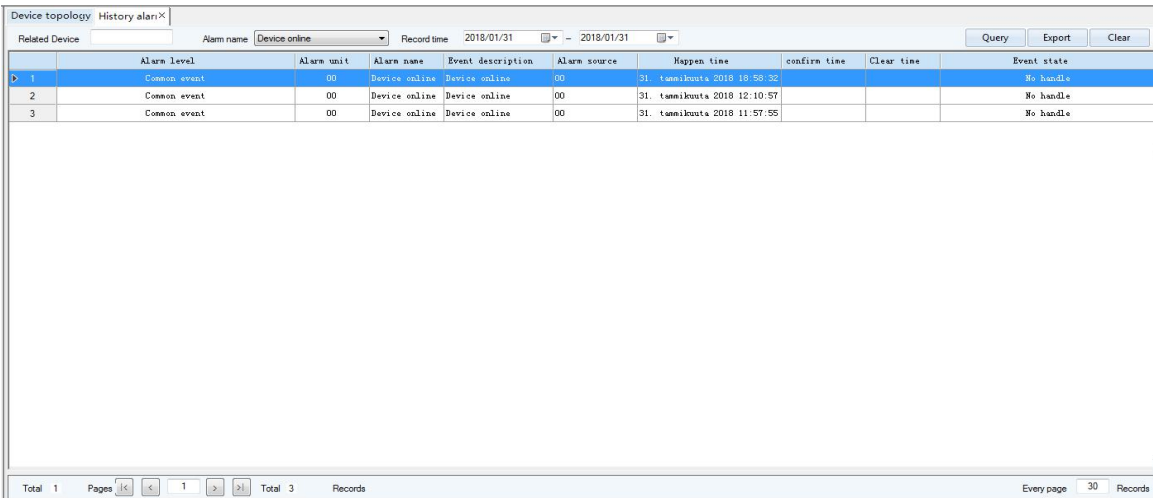

Fig.6.3 History alarm
You can query, clear and export historical alarm information in Fig.6.3. The explanation of query condition includes:
- (1) Related equipment: Input the related name of the pre-query history alarm and click query button(see Fig.6.3), then all the alarm information that is related to query will be displayed.
- (2) Alarm name: Click the alarm name, select the alarm type (see Fig 6.3), and click the “Query” button, then all the alarm information of the selected alarm name will be displayed.